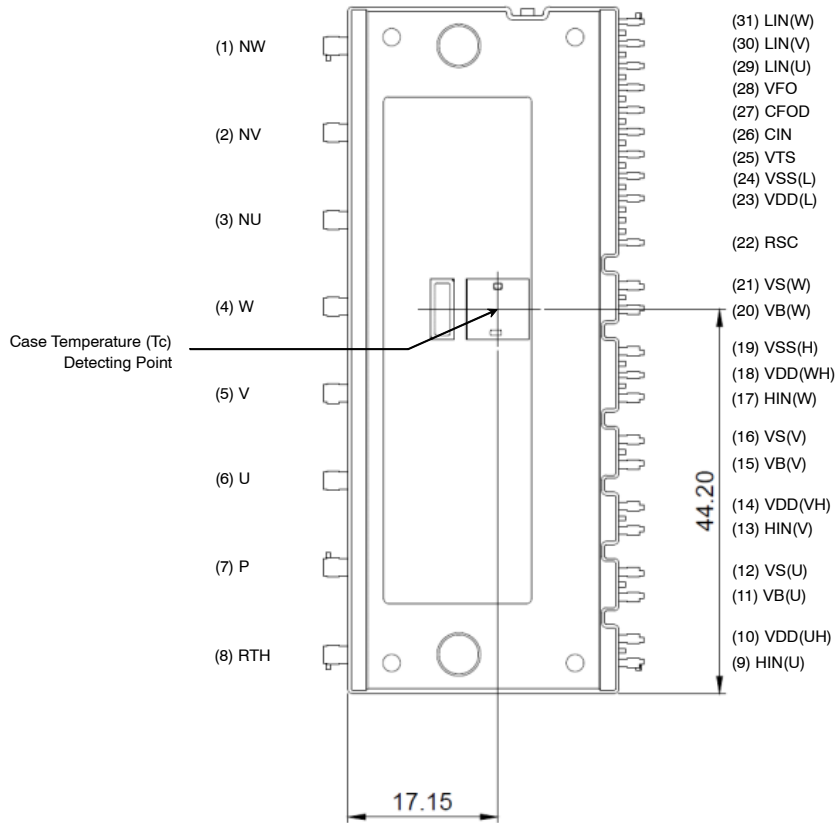

Figure 10. Case Temperature (Tc) Detecting Point
3. For the measurement point of case temperature (T_C), please refer Figure 10.